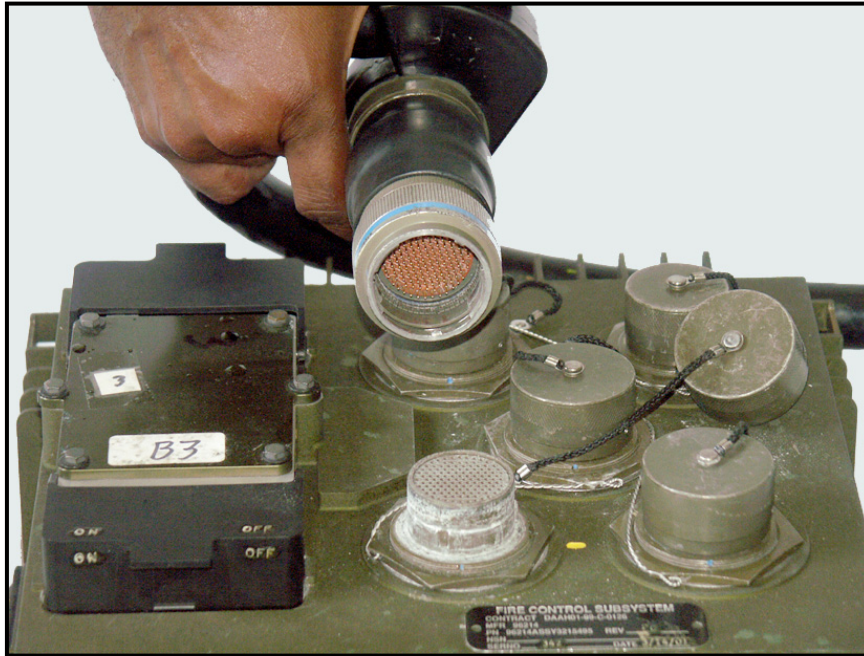

Figure 3-6. Coil cable connects to FCS J2 connector.
- (1) He removes the J1 and J2 connector covers on the FCS.
- (2) He connects the coil cable, with the pin-saver adapter attached, to the FCS J2 connector (Figure 3-6).
- (3) He connects HMMWV interface cable (HIC) to the FCS J1 connector.